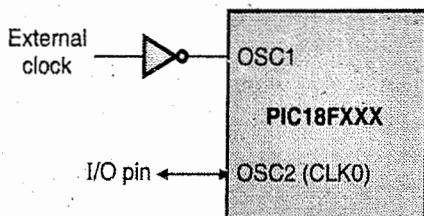

Fig. 4.13.5 : External clock input operation
- Fig. 4.13.5 shows the oscillator for ECIO mode. It also uses an external clock .In this mode the OSC1 pin is driven by CMOS drivers and OSC2 pin is multiplexed with an I/O pin .